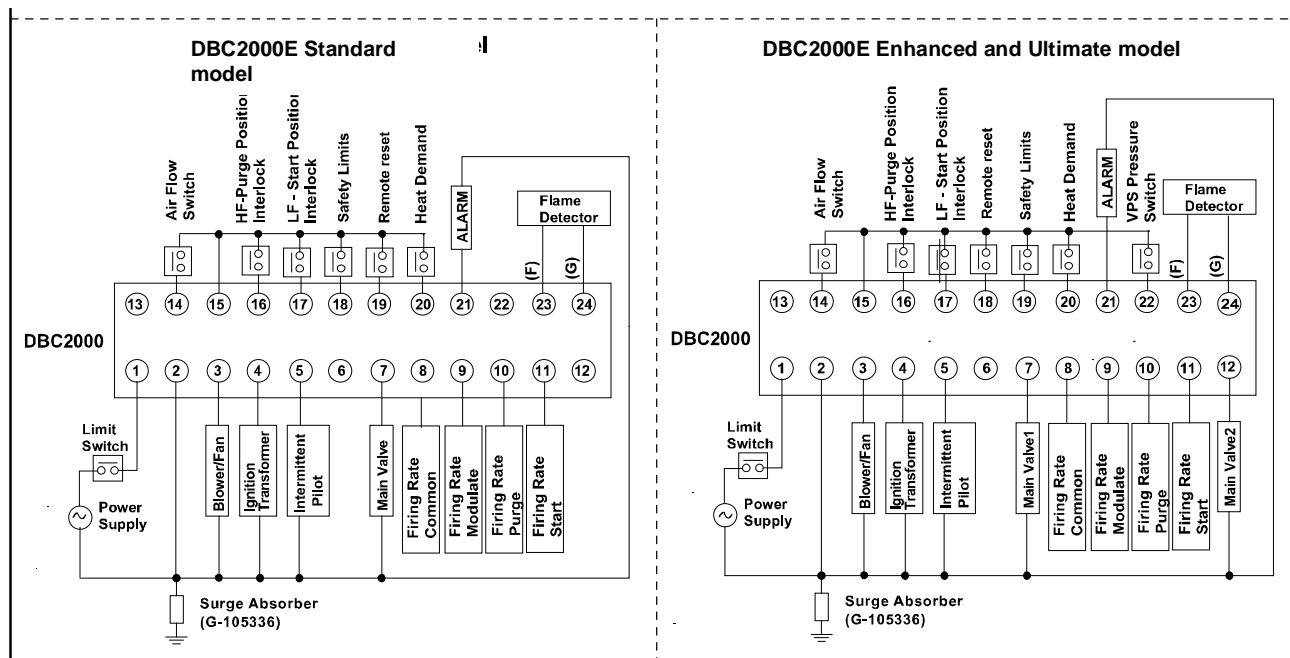

Fig. 3-2: Example1 of wiring to external equipment
1. Wiring connections for the relay modules are unique; refer to Fig. 3-2 or the appropriate Specifications for individual subbase wiring.